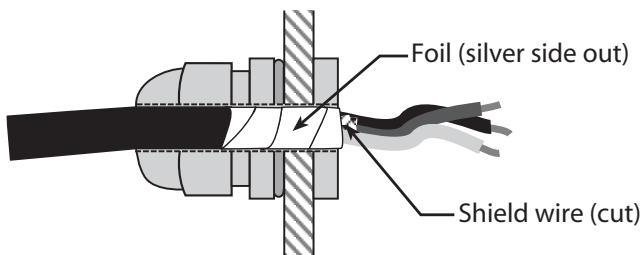

Figure 2-3. Foil Shielded Cabling
For cables with foil-type shielding, strip an additional 15 mm of insulation from the cable. Cut the foil shield at a location about 15 mm *inside* the enclosure, then fold the foil shield back on the cable (see Figure 2-3). Ensure silver (conductive) side of foil is turned outward for contact with the metal cord grip.
6. Cut the shield wire just inside the enclosure (see Figure 2-3). Shield wire function is provided by contact with the metal cord grip.